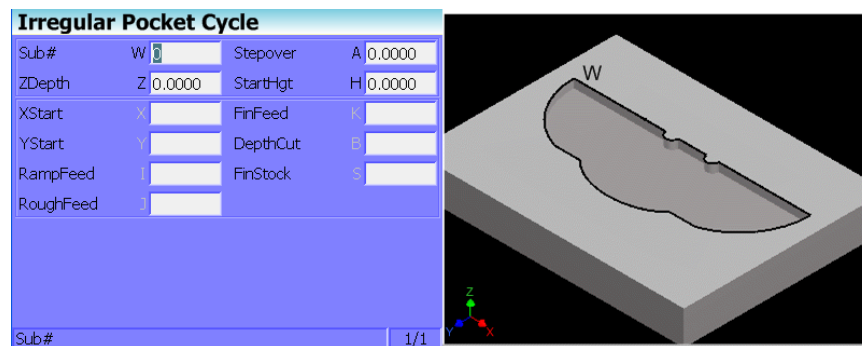

Figure 4-21, Irregular Pocket Cycle Graphic Menu
6. Highlight **Irregular** and press **ENTER** to display the Irregular Pocket Cycle Graphic Menu. Refer to **Figure 4-21**.